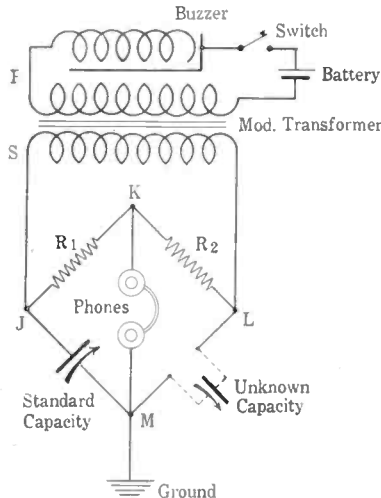
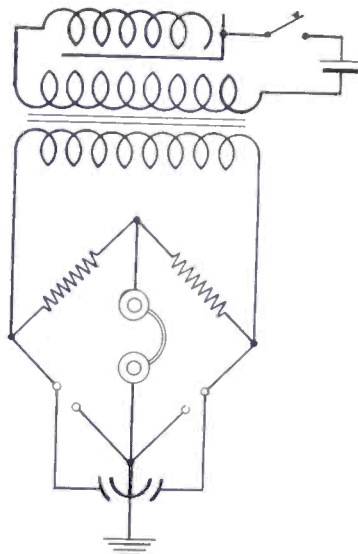

Fig. 1
Fig. 2
A schematic wiring diagram of the unit is shown in Fig. 1. The buzzer, actuated by the battery and switch and connected in series with a modulation transformer primary, generates a signal and emf, amplified by the secondary of the transformer and impressed across the bridge arms K J M and K L M. A pair of phones are connected between the points K and M. The arm J K contains a 1,000 ohm non-inductive resistance, as does the arm K L. The arm J M is the standard arm and contains a calibrated variable condenser. The arm M L carries the unknown condenser. The resistances in the arms J K and L K being equal, the voltage between the points J K and L K are equal, and if a balance in the capacity arms J M and M L is obtained, the reactance of the two arms J M and K L M will be equal. Thus the voltage in one arm balances the voltage in the other arm and an absence of sound in the phones results. However, if there is a variation between the two capacities, the standard and the unknown, a difference of potential will be obtained between the two arms and the buzzer note will be audible in the phones, the strength of this note depending on the value of the potential difference. The foregoing is the theoretical operation of the bridge.
**HOW to hook up a Wheatstone Bridge (Fig. 1). A quick way to test a double condenser is shown in Fig. 2.**
Following along the lines set forth, it is possible to check the various sections of multi condensers; one section at a time. There is, however, another method, more rapid but likely to confuse. This arrangement is to replace the standard by one section of a double condenser and place the other section in the position of the unknown, as in Fig. 2. This can be accomplished since point M is connected to the common rotor. If both units are alike in capacitance value throughout the range, no signal will be audible in the phones throughout the range of the condensers. If however a variation is existent at any one point, it will be manifest by a note in the phones.